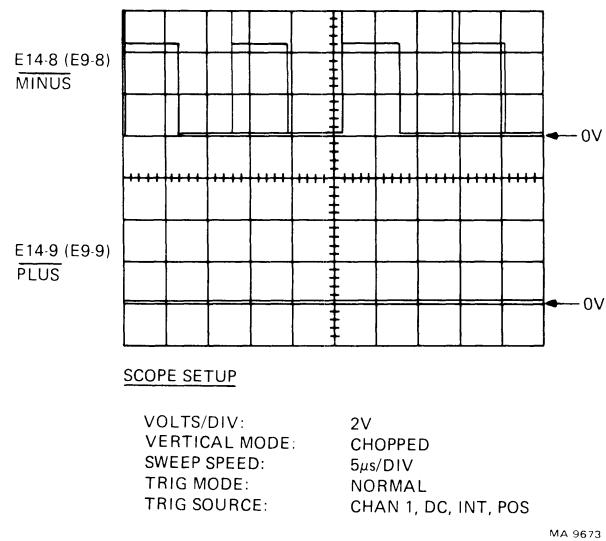

Figure 6-7 DC Servo Motor Being Stepped Left-to-Right
15. Set the scope as shown in Figure 6-7 and apply power to the terminal. Command the terminal to test spaces. Press **CTRL/SET-UP, T, SPACE BAR**.
16. The waveform on the scope should match the waveform in Figure 6-7 during left-to-right carriage motion. Channel 2 should be at or near 0 V and channel 1 should be pulsing high.